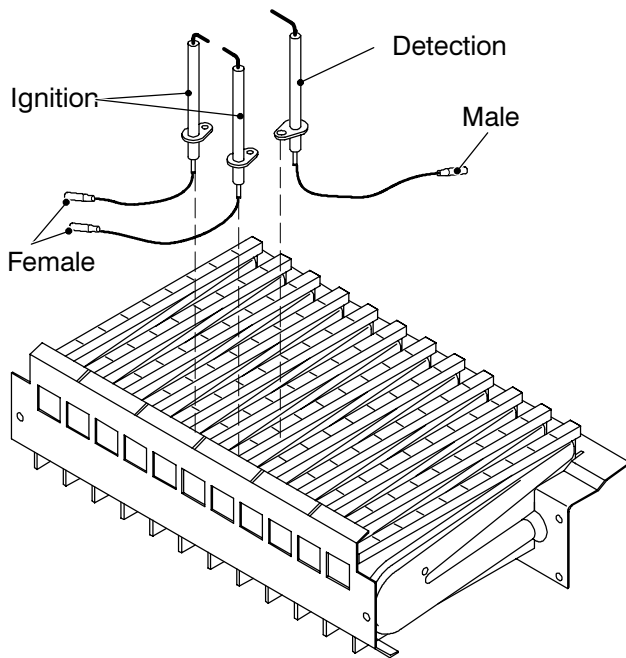

Fig. 74
- 7 Assemble the electrodes carrying out the removal operation in reverse order. Refer to Fig. 74 in order to recognise the electrodes and to correctly connect the wiring.